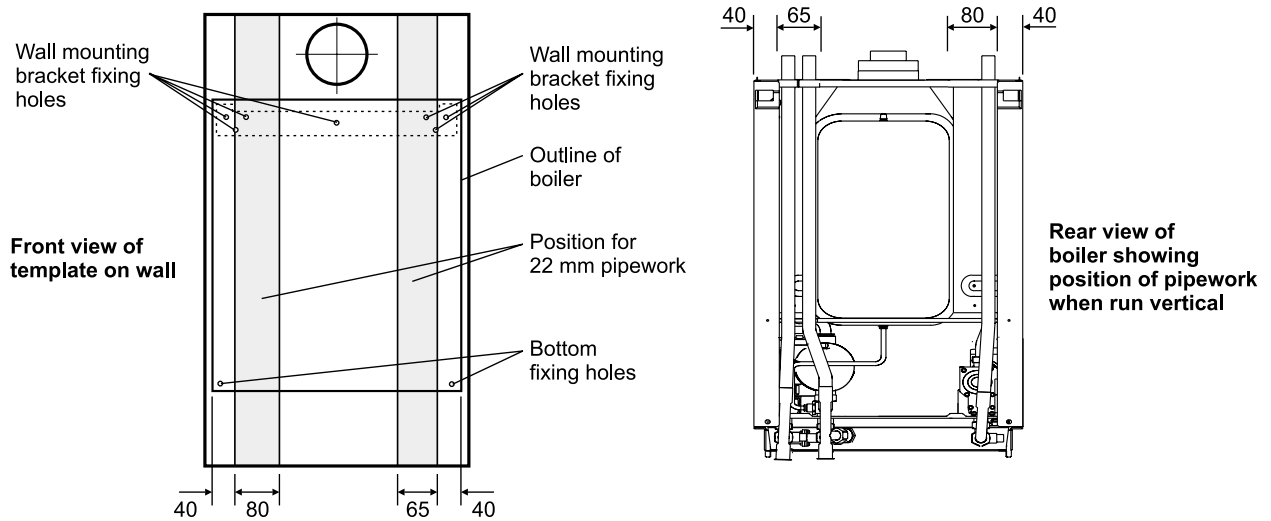

Fig. 10
- Top pipe connections** - Preform the pipework at the back of the boiler before hanging the boiler, see Fig. 10, and secure in the clips provided.
4.4 FIT THE BOILER - Refer to Fig. 10